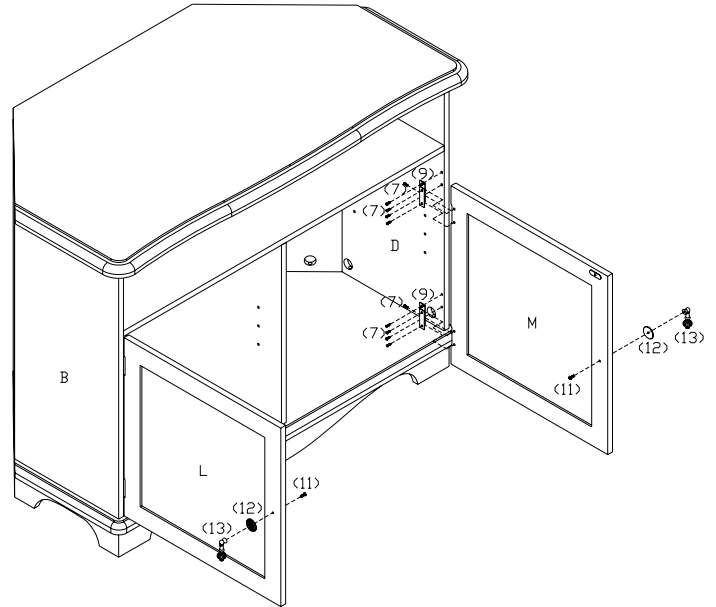

FIGURE 6
7. INSERT SMALL FLAT HEAD WOOD SCREWS (7) THROUGH HINGES (9) AND TIGHTEN INTO PREDRILLED HOLES ON DOORS (L, M). AND ATTACH DOORS (L, M) TO SIDE PANELS (B, D). TIGHTEN SMALL FLAT HEAD WOOD SCREWS (7) THROUGH HINGES (9) INTO CORRESPONDING HOLES ON SIDE PANELS (B, D). INSERT MACHINE SCREWS (11) THROUGH PREDRILLED HOLES ON DOORS (L, M), METAL PLATES (12) AND TIGHTEN INTO METAL HANDLES (13). AS SHOWN IN FIGURE 6.